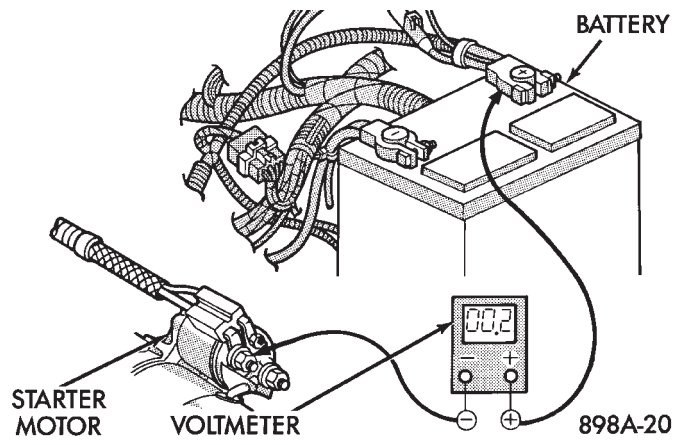

Fig. 3 Test Positive Battery Cable Resistance (Typical)
(3) Connect a voltmeter to measure between the battery positive post and the center of the B+ starter solenoid stud (Fig. 3).
(4) Rotate and hold ignition switch in the START position. If voltage reads above 0.2 volt, correct poor